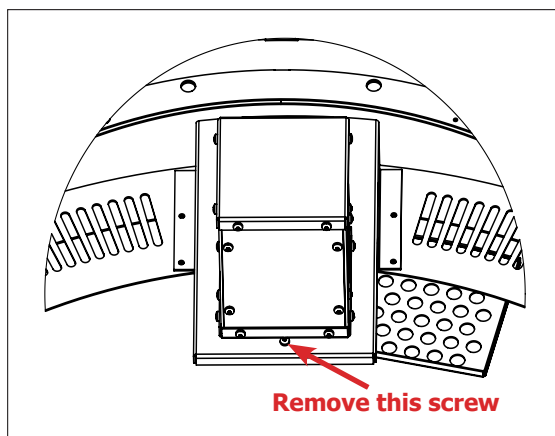

Figure 27: Valve Box Removal
4. Remove the screw on the valve box platform shown in Figure 27, slide the valve box toward the center of the unit and remove it from the platform. Be careful of the wires that feed into the bottom of the box.